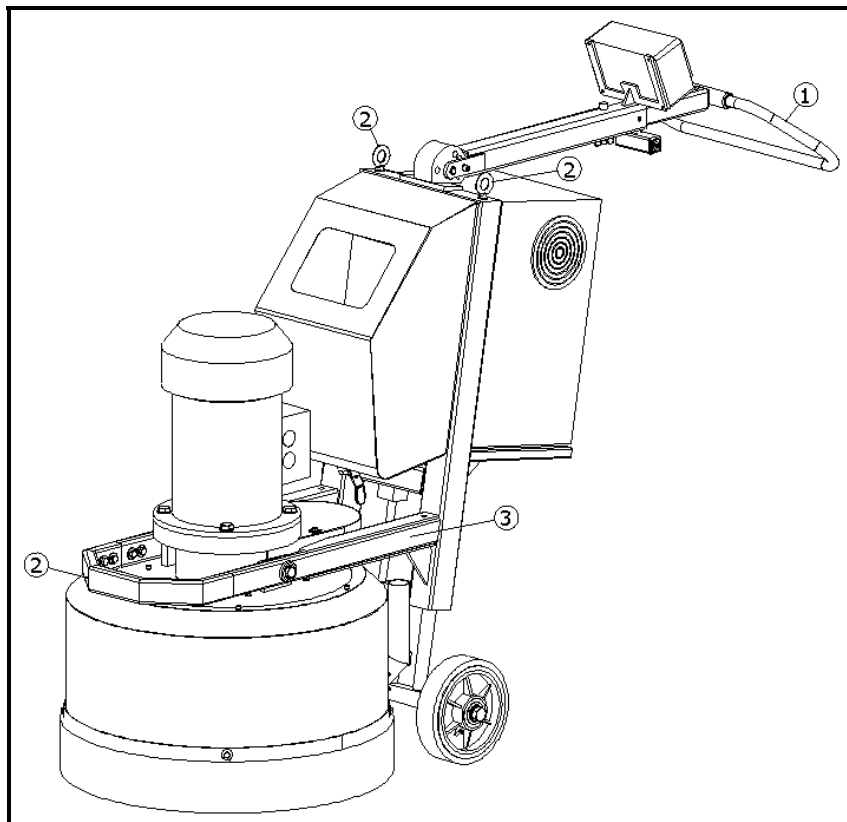

Fig. 4.1
To move the machine, press down the handgrips of the machine (see fig.4.1) until the front part rises off the ground and the machine is well balanced. It can now be pushed around on its wheels.
When transporting the machine in a vehicle, always drive carefully and in a manner to avoid the machine shifting. Secure the machine with a tightening load strap over the lower frame (3), as shown in figure 4.1. Use at least two load straps, and tighten down to the body of the vehicle.